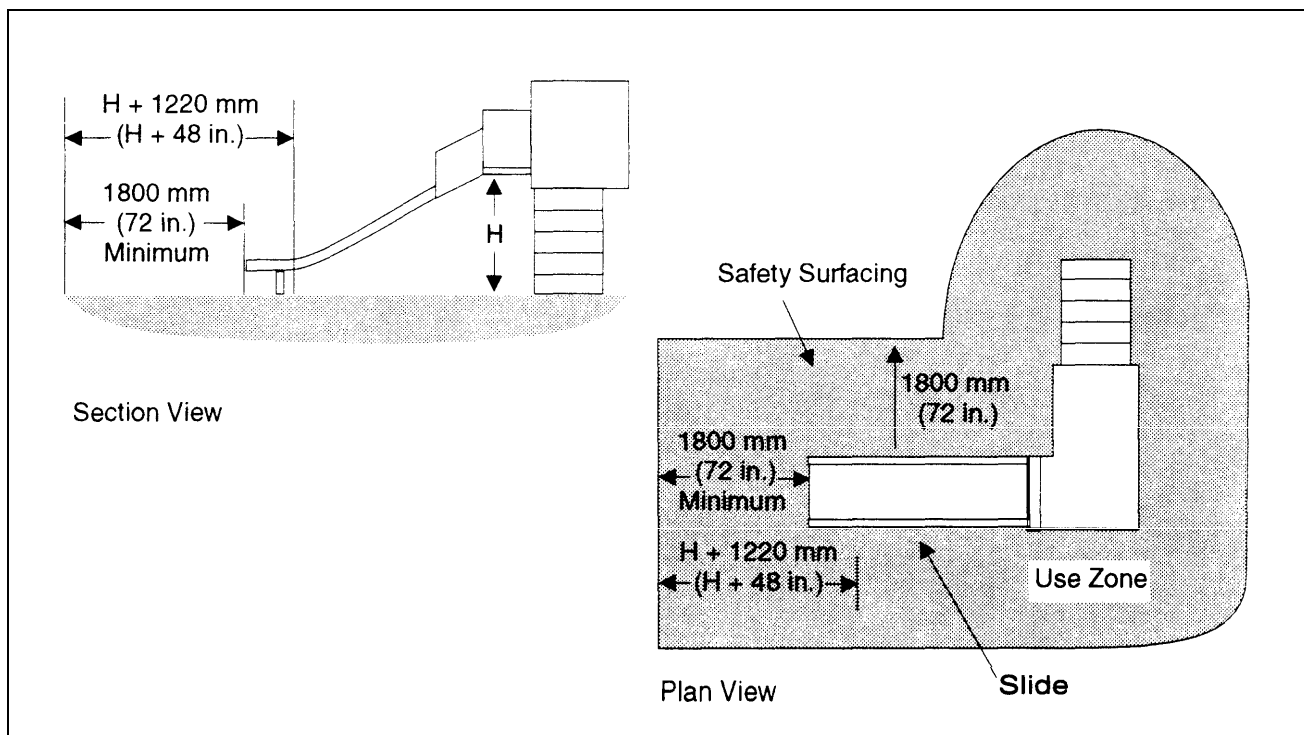

Figure 3-5: Typical slide use zone.
*c. Slide Use Zone.* For slides, use zone dimensions in front of the slide exit region and to both sides of the slide bed must be considered (fig 3-5). Depending